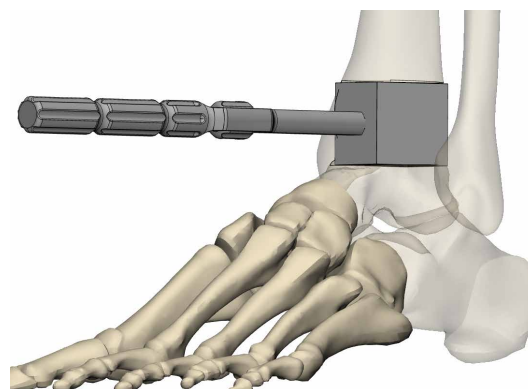

Fig. 18.1
- 18.1 The trial footprint should provide adequate bone coverage between the trial and anatomy, maximizing cortical bone contact where applicable, without extending beyond the bone margins to avoid interaction with the adjacent soft tissues. (fig. 18.1). The trial height should provide bone contact both proximally and distally to ensure adequate apposition of the Ossera™ AFX to bone. With the trial in place, approximate soft tissue closure to ensure the implant will not require excessive tension on the soft tissue envelope.